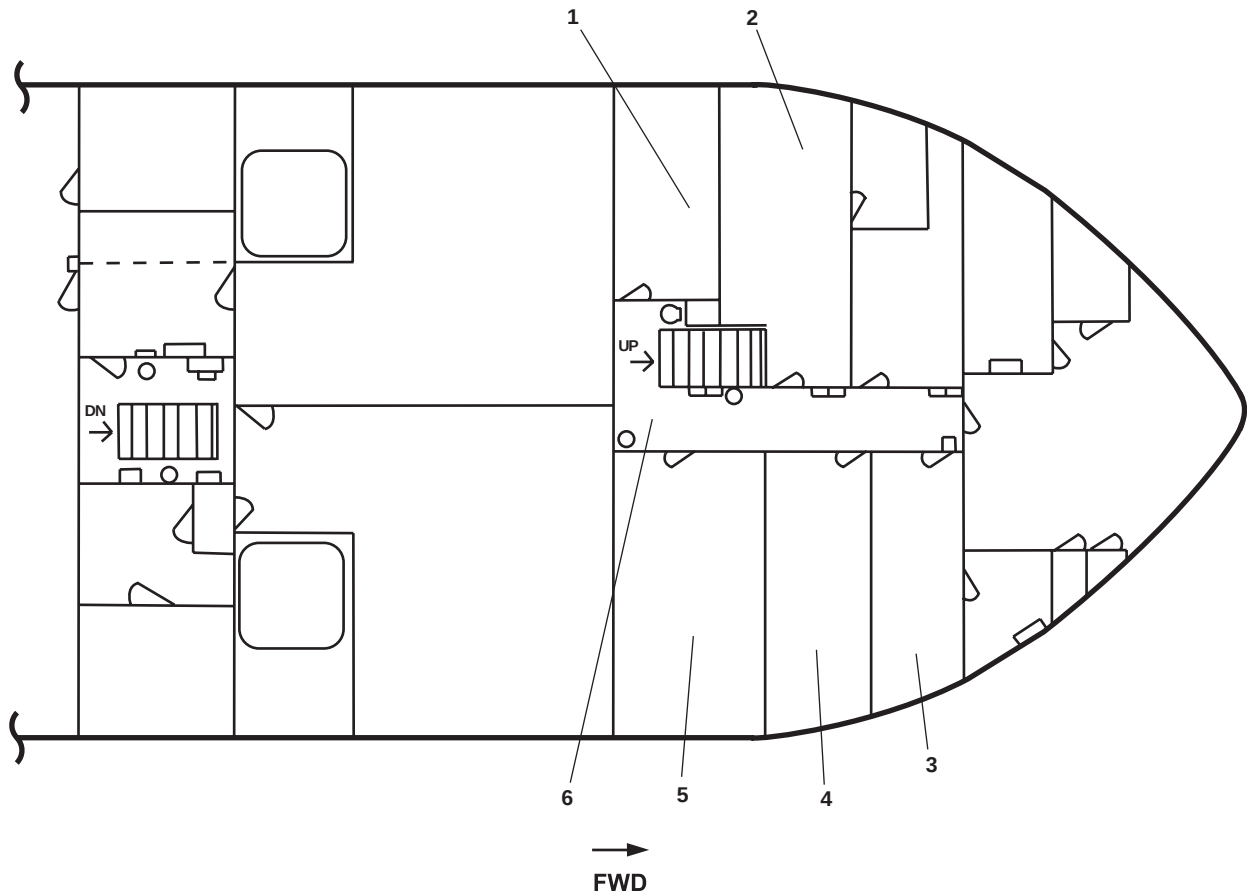
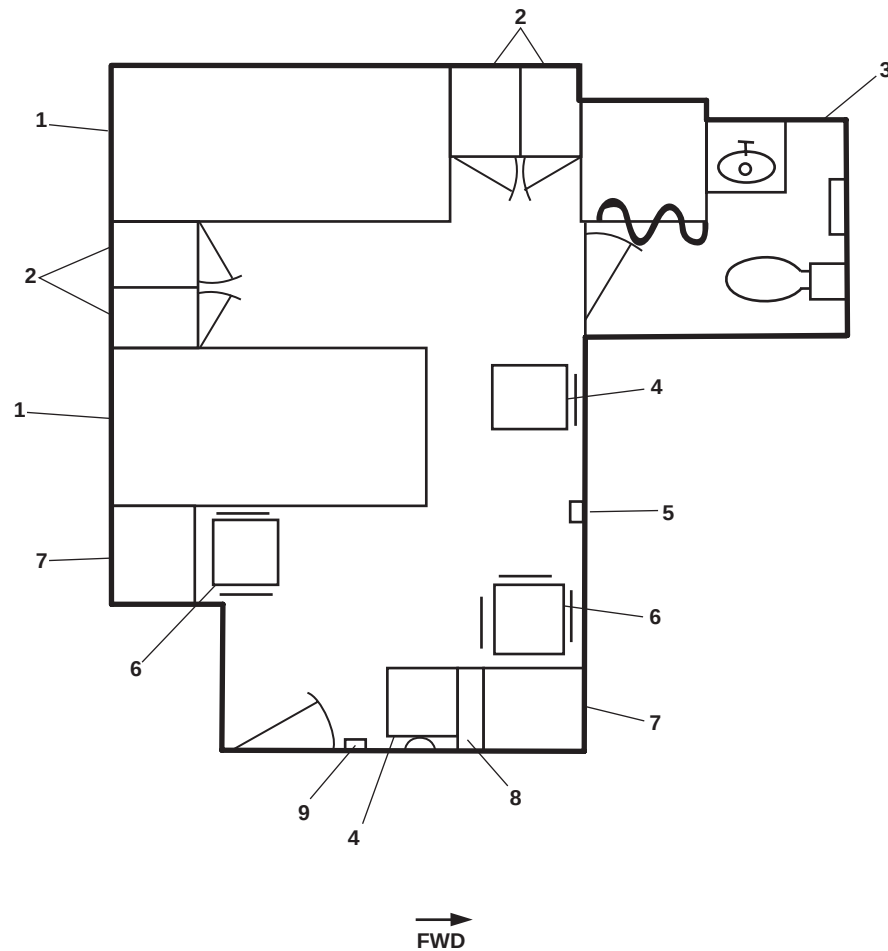
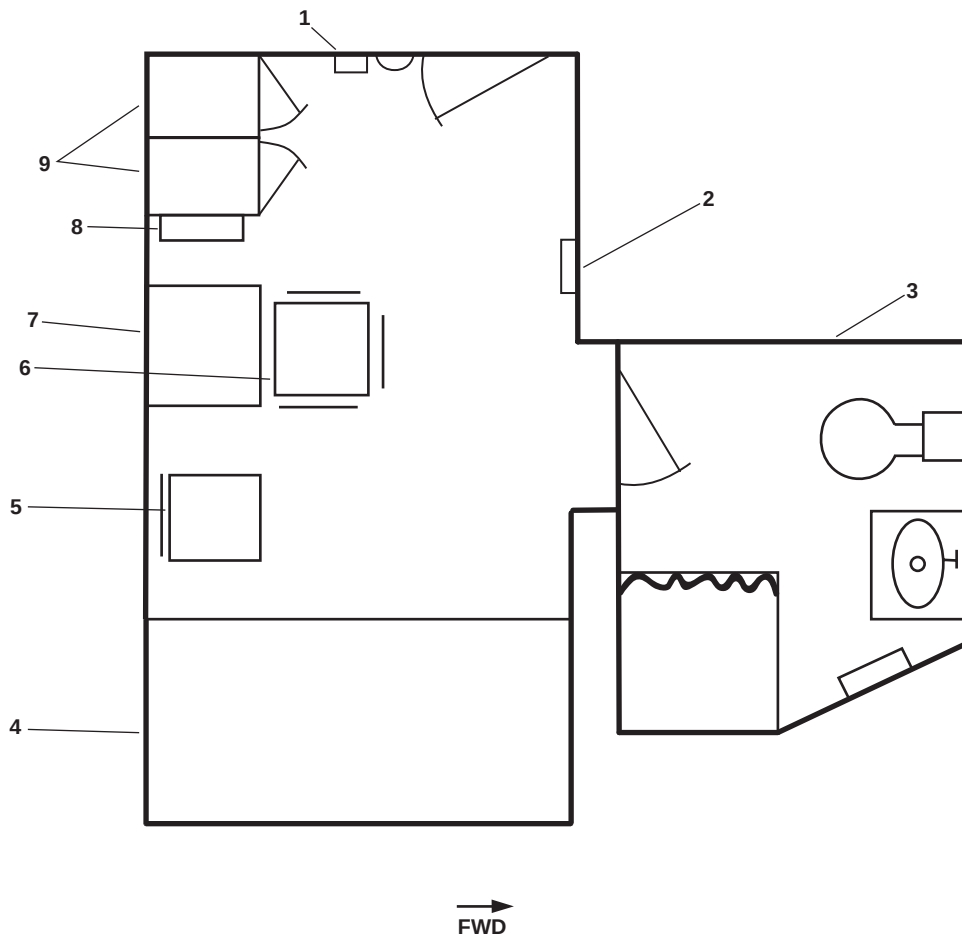
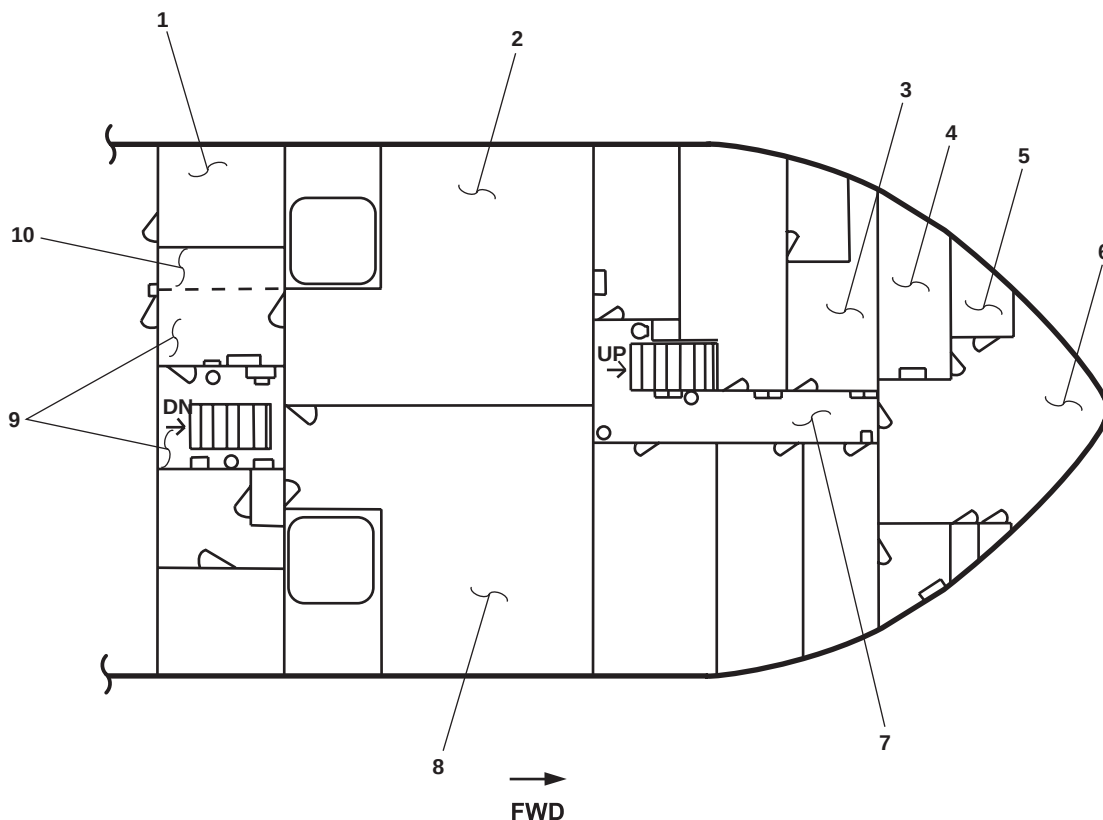

Figure 1. Main Deck Interior, Berthing Areas
Figure 3. Crew's Stateroom 3
Figure 4. Crew's Stateroom 1
Figure 1. Main Deck Interior, Non-berthing Areas
1. Sanitary space (figure 1, item 1). The sanitary space includes two showers, two water closets, a convection heater, and two sinks. Details of this space are contained in figure 2.
2. Crew's stateroom 3 (figure 1, item 2). The crew's stateroom 3 contains living accommodations for four crewmembers. Details of this space are contained in figure 3.
3. Crew's stateroom 1 (figure 1, item 3). The crew's stateroom 1 contains living accommodations for two crewmembers. Details of this space are contained in figure 4.
4. Crew's stateroom 2 (figure 1, item 4). The crew's stateroom 2 contains living accommodations for four crewmembers. Details of this space are contained in figure 5.
5. Crew's stateroom 4 (figure 1, item 5). The crew's stateroom 4 contains living accommodations for four crewmembers. Details of this space are contained in figure 6.
6. Passageway (figure 1, item 6). The passageway provides crewmembers an access route to different areas of the vessel. Details of this space are contained in figure 7.
1. Bunks (figure 3, item 1). The bunks provide sleeping structures for four crewmembers.
2. Locker (figure 3, item 2). The lockers provide storage for the crewmembers' clothing and personal items.
3. Sanitary space (figure 3, item 3). The sanitary space includes a sink, water closet, shower, and a convection heater.
4. Night table (figure 3, item 4). The night table provides storage for miscellaneous items.
5. Intercom (figure 3, item 5). The intercom provides communication to the rest of the vessel.
6. Chairs (figure 3, item 6). The chairs provide seating for crewmembers.
7. Chest/desk combo (figure 3, item 7). The chest/desk combo provides storage space and a desktop for reading or writing.
8. Life jacket stowage (figure 3, item 8). The life jacket stowage provides storage for four life jackets.
9. Thermostat (figure 3, item 9). The thermostat provides temperature control in the stateroom.
1. Thermostat (figure 4, item 1). The thermostat provides temperature control in the stateroom.
2. Intercom (figure 4, item 2). The intercom provides communication to the rest of the vessel.
3. Sanitary space (figure 4, item 3). The sanitary space includes a sink, water closet, shower, and a convection heater.
4. Bunks (figure 4, item 4). The bunks provide sleeping structures for two officers.
5. Night table (figure 4, item 5). The night table provides storage for miscellaneous items.
6. Chair (figure 4, item 6). The chairs provide seating for crewmembers.
7. Chest/desk combo (figure 4, item 7). The chest/desk combo provides storage space and a desktop for reading or writing.
8. Life jacket stowage (figure 4, item 8). The life jacket stowage provides storage for two life jackets.
9. Locker (figure 4, items 9). The locker provides storage for the crewmembers' clothing and personal items.
1. Fan room (figure 1, item 1). This space contains the Heating, Ventilation, and Air Conditioning (HVAC) equipment for the main deck spaces. Details of this space are contained in figure 2.
2. Mess/recreation space (figure 1, item 2). This space is used for feeding the crew and provides a recreation area for watching television and other activities. Details of this space are contained in figure 3.
3. Damage control locker (figure 1, item 3). This space is used for storing much of the vessel's damage control gear. Details of this space are contained in figure 4.
4. Laundry room (figure 1, item 4). This space houses all of the equipment necessary to process the crew's laundry. Details of this space are contained in figure 5.
5. Arms locker (figure 1, item 5). This space provides secure stowage for the vessel's weapons. Details of this space are contained in figure 6.
6. Boatswain's store (figure 1, item 6). This space provides stowage for vessel supplies and equipment. Details of this space are contained in figure 7.